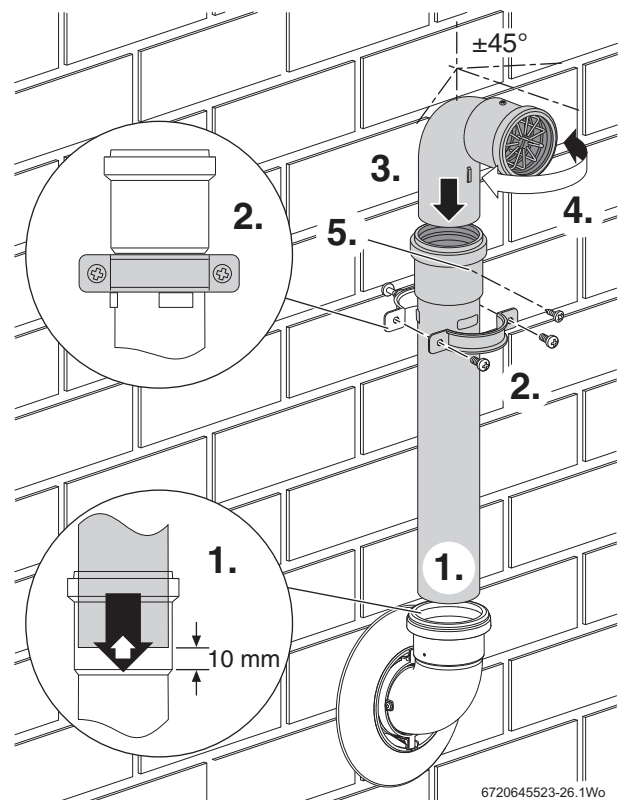

Fig. 42 Plume management installation
3. Mark the position for the wall clamp so that it coincides with the extension tube just below the top fitting (Refer to figure 42 point 2). Drill a hole to suit the wall plug and fit the wall plug.
Refer to figure 42 plume management installation.